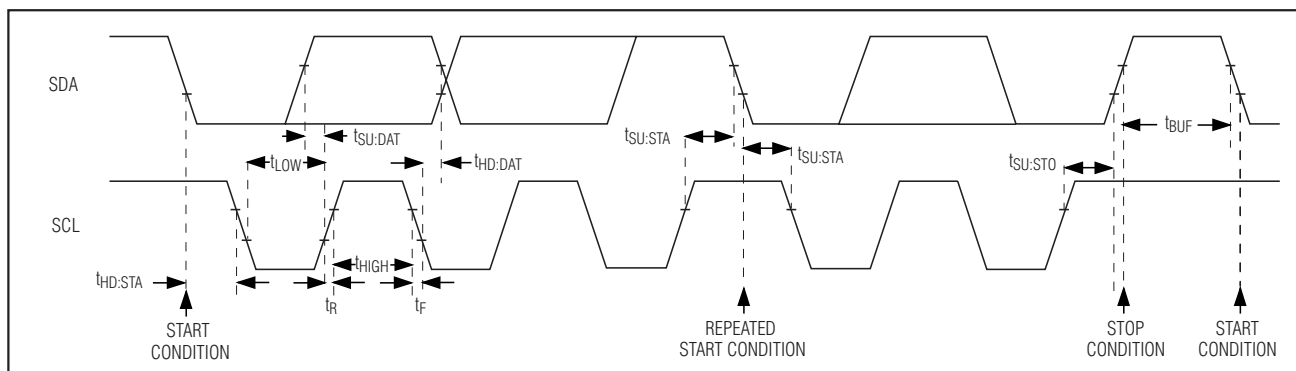

Figure 6. 2-Wire Interface Timing Diagram
The MAX9875 features an I²C/SMBus™-compatible, 2-wire serial interface consisting of a serial-data line (SDA) and a serial-clock line (SCL). SDA and SCL facilitate communication between the MAX9875 and the master at clock rates up to 400kHz. Figure 6 shows the 2-wire interface timing diagram. The master generates SCL and initiates data transfer on the bus. The master device writes data to the MAX9875 by transmitting the proper slave address followed by the register address and then the data word. Each transmit sequence is framed by a START (S) or REPEATED START (Sr) condition and a STOP (P) condition. Each word transmitted to the MAX9875 is 8 bits long and is followed by an acknowledge clock pulse. A master reading data from the MAX9875 transmits the proper slave address followed by a series of nine SCL pulses. The MAX9875 transmits data on SDA in sync with the master-generated SCL pulses. The master acknowledges receipt of each byte of data. Each read sequence is framed by a START or REPEATED START condition, a not acknowledge, and a STOP condition. SDA operates as both an input and an open-drain output. A pullup resistor, typically greater than 500Ω, is required on SDA. SCL operates only as an input. A pullup resistor, typically greater